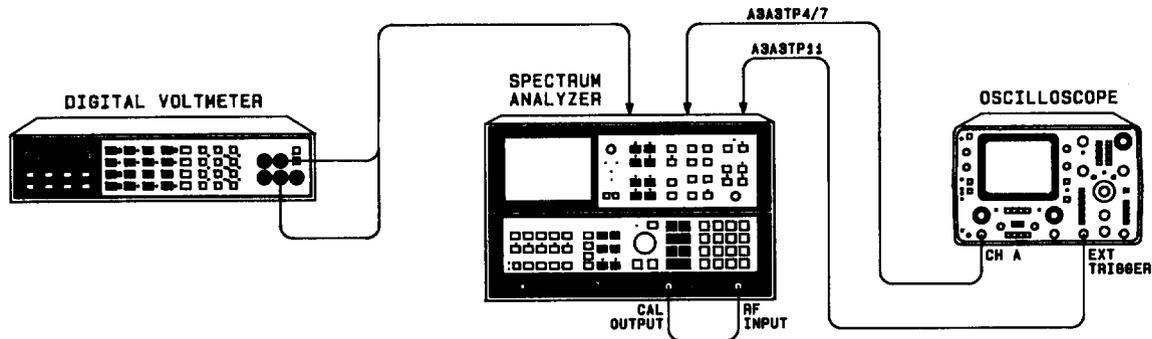

FIGURE 78. DIGITAL STORAGE DISPLAY ADJUSTMENTS SETUP
1. Place instrument upright as shown in Figure 78 with top and A3 Digital Storage covers removed.